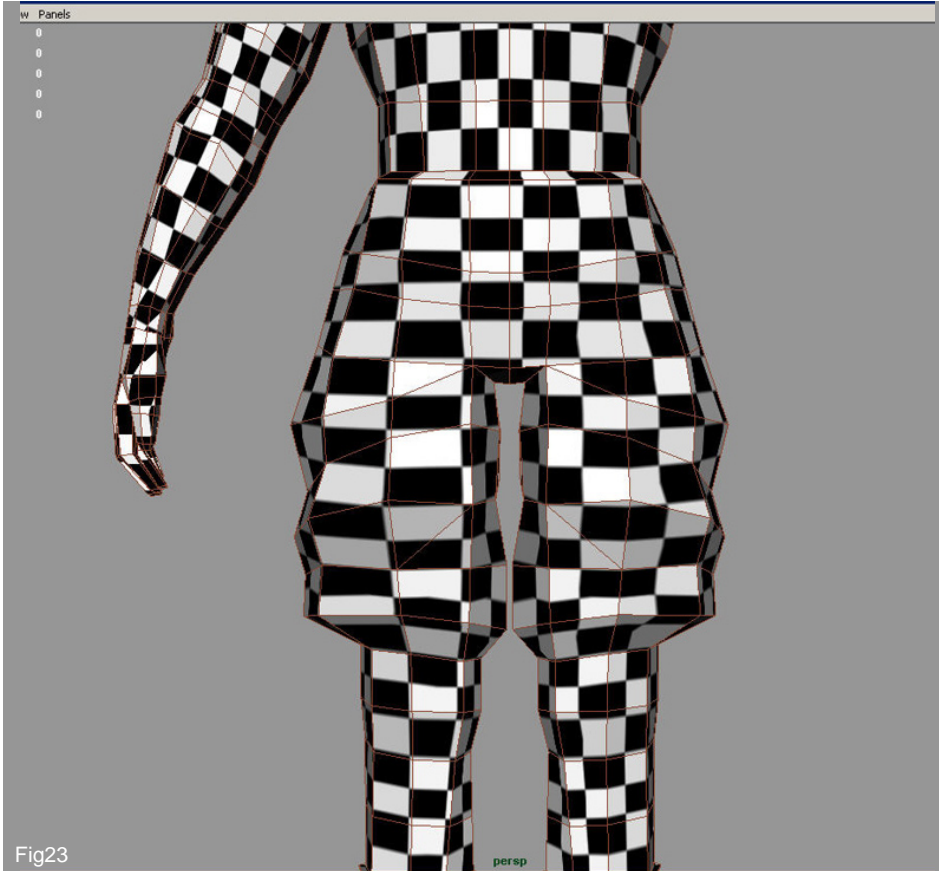

Fig23
23. I'll duplicate the leg and I will transfer also the UV's from one leg to another. In legs case I can do this because both of them are similar. On the other hand I cannot do the same for the arms because they are different so I will unwrap the other arm using the same techniques. (Fig23).